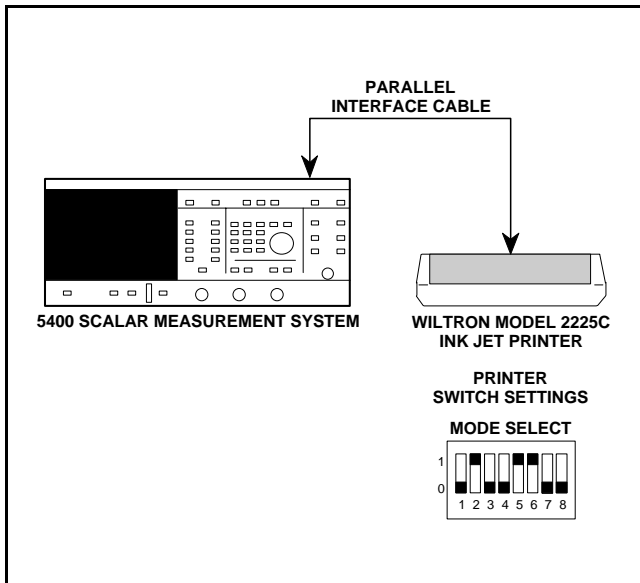

Figure 5-12. Equipment Setup for Printer Operation Test
1. Connect the test equipment as shown in Figure 5-12 and turn the equipment on. Use the interface cable to connect the printer to the 54XXA rear panel PARALLEL PRINTER INTERFACE connector.